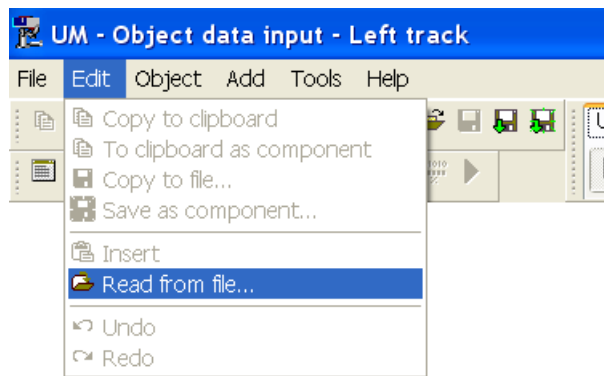

Figure 1.20. Menu command for adding an element from file
2. Add a shock absorber model from the UM database by the **Edit | Read from file...** command, Figure 1.20. Select the file {UM data}\Caterpillar\Dampers\Damper1.